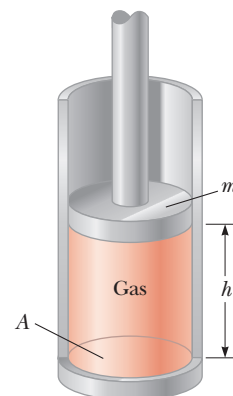

Figure P19.64
- 64.** A vertical cylinder of cross-sectional area  $A$  is fitted with a tight-fitting, frictionless piston of mass  $m$  (Fig. P19.64). The piston is not restricted in its motion in any way and is supported by the gas at pressure  $P$  below it. Atmospheric pressure is  $P_0$ . We wish to find the height  $h$  in Figure P19.64. (a) What analysis model is appropriate to describe the piston? (b) Write an appropriate force equation for the piston from this analysis model in terms of  $P$ ,  $P_0$ ,  $m$ ,  $A$ , and  $g$ . (c) Suppose  $n$  moles of an ideal gas are in the cylinder at a temperature of  $T$ . Substitute for  $P$  in your answer to part (b) to find the height  $h$  of the piston above the bottom of the cylinder.